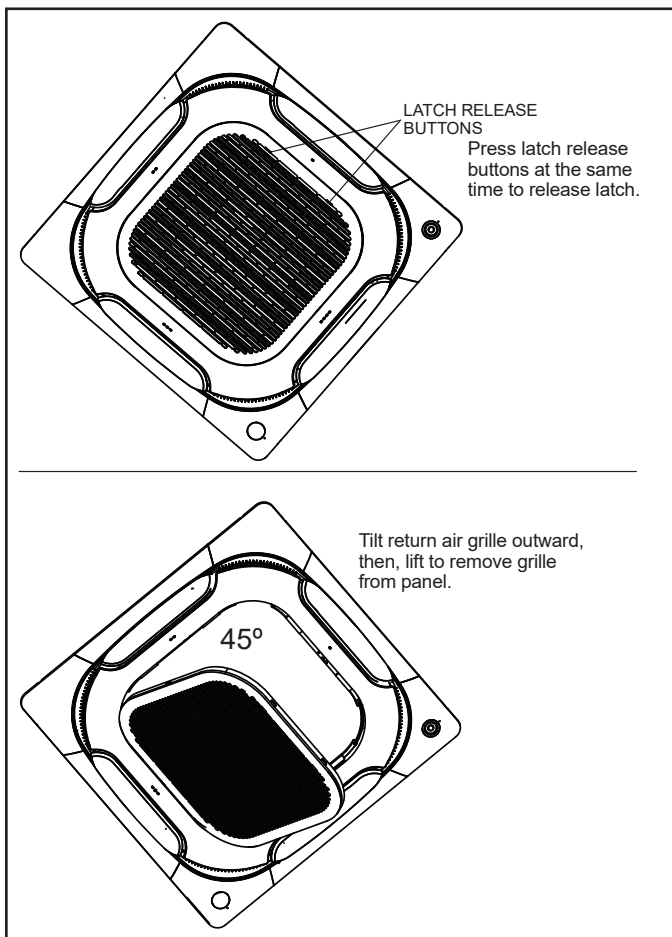

Figure 21. Remove Return Air Grille
2. Press the two grille latch release buttons at the same time to release the grille. See Figure 21. Tilt the return air grille outward at a 45° angle and lift the grille away from the panel. Carefully place the return air grille off to the side.